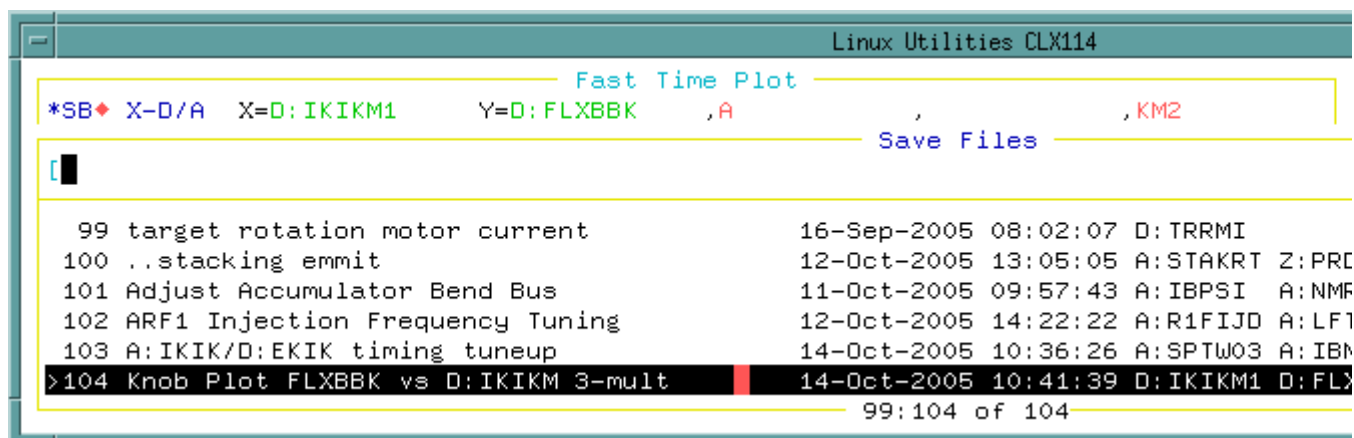

Figure 21: From the Utilities Window, click on FTP, then click on Restore, and then select P-bar. Select file 104 and start the FTP.
12. As shown in Figure 21 start a FTP from Utility Window FTP Pbar File 104.